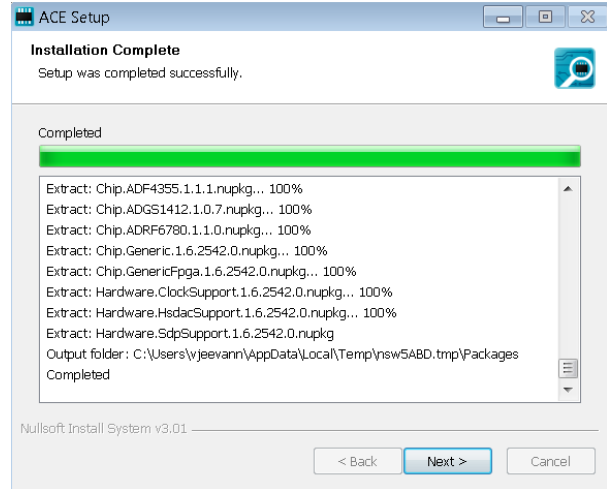

Figure 9. Installation Complete
- When the installation is complete, click **Next >** (see Figure 9), and then click **Finish** to complete the installation process.